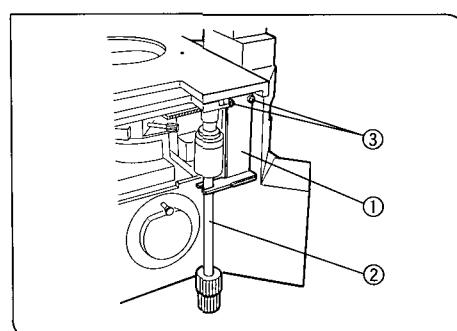
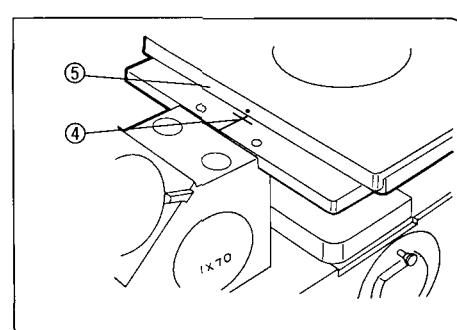

Fig. 17
Fig. 18
(Figs. 17, 18)
1. Insert the stalk (2) of the flexible X-Y movement knobs into the U-shaped notch in the positioning bracket (1). (Fig. 17)
2. Using the Allen screwdriver, tighten the clamping screw (3) of the bracket lightly to the stage.
3. Align the stage's center alignment index line (4) with the edge of the upper stage (5). (Fig. 18)
5. Tighten the clamping screw (3).